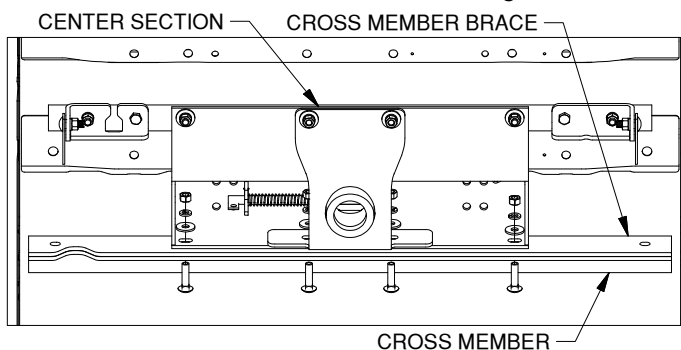

Figure G2: Looking up under truck bed (frame not shown). PAGE 5 of 8
3. **Attach front cross members.** Slide the front cross member brace and the front cross member rearward against the center section. Line up the square holes in the cross members with the slots in the center section. Secure the cross member parts to the center section using the 1/2" x 2" carriage bolts, flat washers, lock washers, and nuts, as shown in Figure G2.